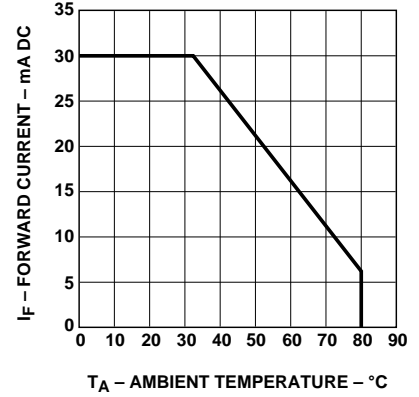

Figure 6. Maximum DC Forward Current vs. Ambient Temperature. Derating Based on T_j Max. = 115 °C.
- Derate linearly from 50 $^\circ\text{C}$ as shown in Figure 6.